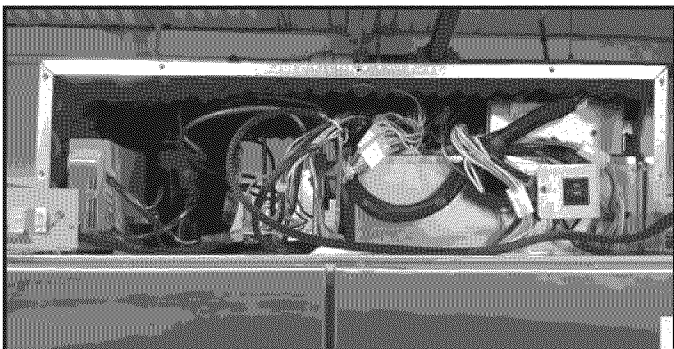

FIGURE 14
**NOTE:** The dog house (top unit cover) will hold the new HV assembly in place. See *Figure 14*.